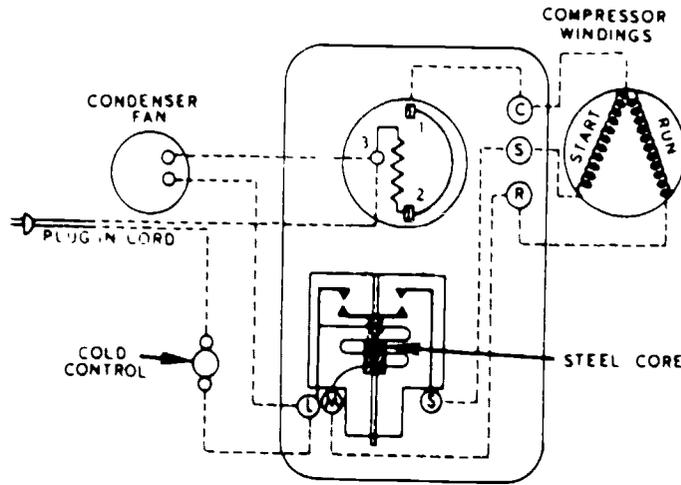

Figure 13. Wiring Diagram (Enclosed Coil Relay)
**Enclosed Coil Relay.** An enclosed coil relay is illustrated in figure 13. The operation of this relay is the same as the open coil type. However in this case the coil is not seen. It is enclosed in a housing with the points. If you study both diagrams, you will see that nothing but the compressor wires go through the thermal overload. The thermal overload is sized only for the compressor amperage.